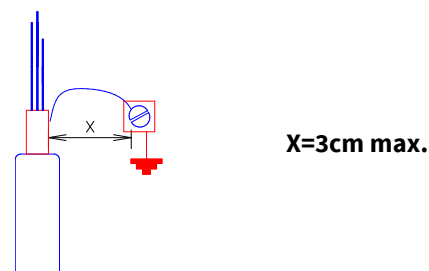

Fig. 6 Shield grounding using wire
Shields that cannot be directly grounded through a busbar or be directly connected to the device ground may be connected to the ground with maximum 3cm long leads (X). (Fig. 6)